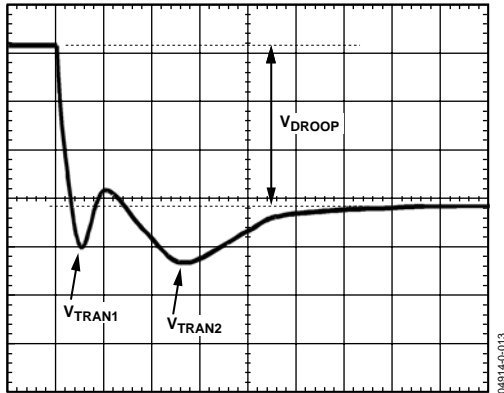
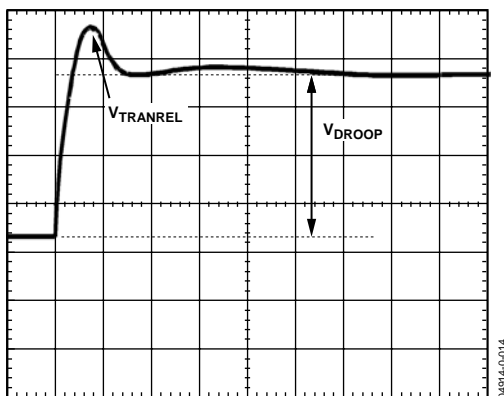

Figure 13. Transient Setting Waveform
Figure 14. Transient Setting Waveform
19. With the dynamic load still set at the maximum step size, expand the scope time scale to see $2\ \mu\text{s}/\text{div}$ to $5\ \mu\text{s}/\text{div}$. The waveform may have two overshoots and one minor undershoot (see Figure 13). Here, V_{DROOP} is the final desired value.
24. For load release (see Figure 14), if V_{TRANREL} is larger than V_{TRAN1} (see Figure 13), there is not enough output capacitance. You need more capacitance or you have to make the inductor values smaller. (If you change inductors, you need to start the design again using the spreadsheet and this tuning procedure.)